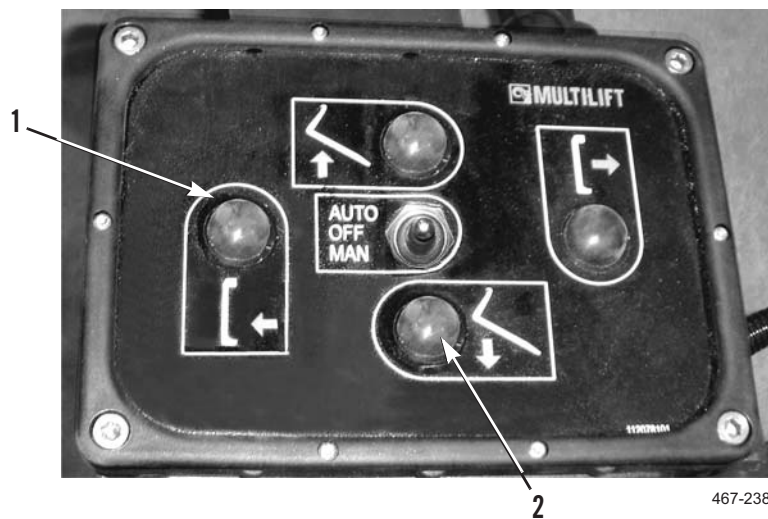

Figure 45. Stowed Lift Frame.
15. Press and hold UP button (Figure 45, Item 2). As soon as hook arm is clear from bail bar, release button.
16. Press and hold STOW button (Figure 45, Item 1). When stowage guide reaches home position, release button.